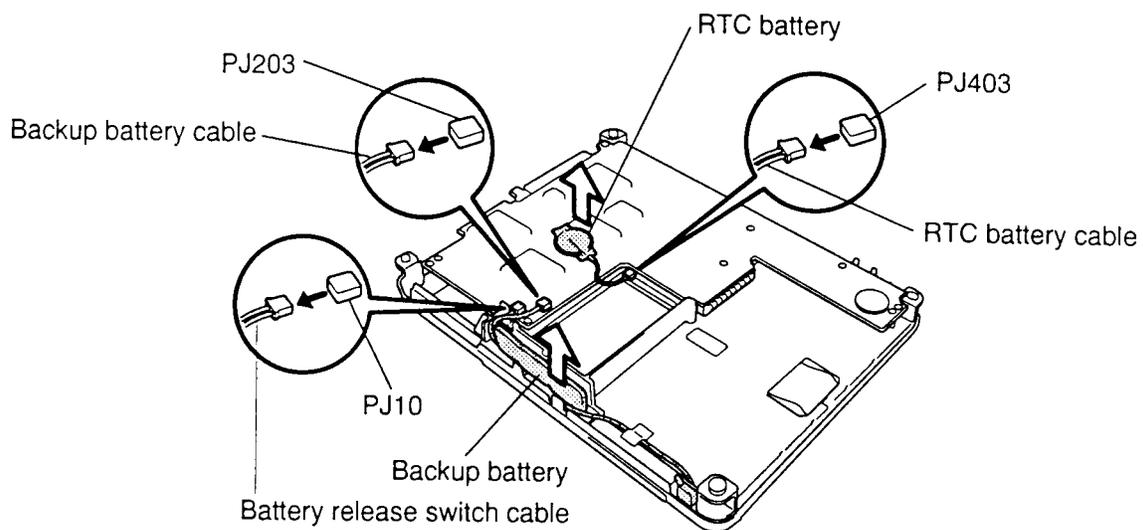

Figure 4-9 Removing the Backup Battery and RTC Battery
To remove the computer's upper system board, backup battery, and RTC battery, follow the steps below and refer to Figures 4-9 and 4-10.
3. Peel back the protective tape and reflect the insulator away, then disconnect the **backup battery cable** from **PJ203**, and lift out the **backup battery** (Figure 4-9).
4. Reflect the insulator away, then disconnect the **RTC battery cable** from **PJ403**, and lift out the **RTC battery** (Figure 4-9).
5. Disconnect the **battery release switch cable** from **PJ10** (Figure 4-9).
To install the computer's upper system board, backup battery and RTC battery, follow the steps below and refer to Figures 4-9 and 4-10.
5. Reflect the insulator away, then connect the **RTC battery cable** to **PJ403** (Figure 4-9).
6. Connect the **backup battery cable** to **PJ203** (Figure 4-9) and replace the protective tape.
7. Connect the **battery release switch cable** to **PJ10** (Figure 4-9).